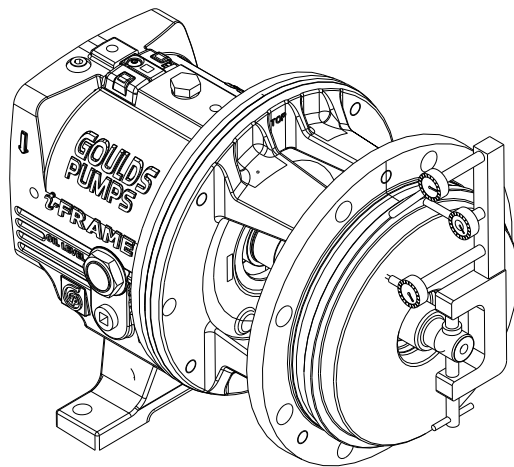

Figure 100: Check seal-chamber cover runout
- b) Check the seal-chamber cover runout. See Figure 100: Check seal-chamber cover runout on page 114.